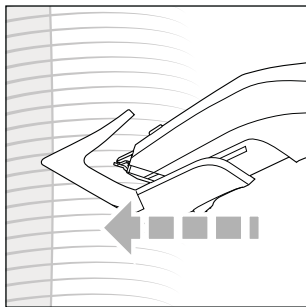

Fig. 7
- 2) Hold the appliance so that the comb attachment ⑩/⑪ or the shaving head ① is as upright as possible against your head and the cutting blade is directed towards your scalp (see fig. 7). Guide the appliance evenly through the hair, moving it only in one direction to prevent hair from getting caught in the shaving head ①.